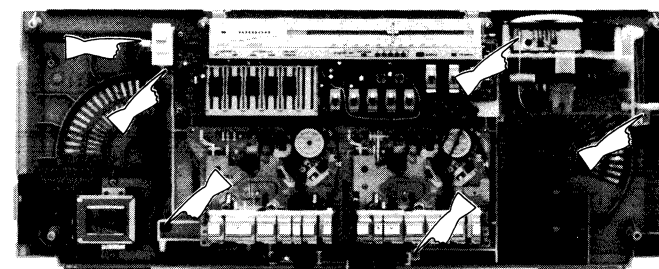

Figure 5-4
1. Remove the antenna lead at the tuner P.W.B. See Fig. 5-4.
2. Remove one socket at the power switch P.W.B. See Fig. 5-4.
3. Remove four screws at the main frame. See Fig. 5-4.